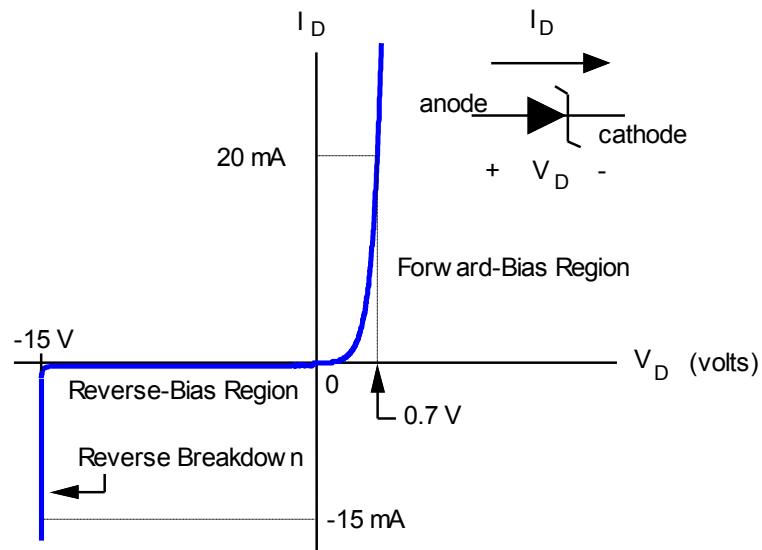

Figure 2-28.
When a p - n junction is reverse biased excessively, it will experience a phenomenon known as **voltage breakdown**. Figure 2-28 illustrates the effect of reverse voltage breakdown on the V - I characteristic curve. When a p - n junction is in breakdown, its reverse current can rise to large values. The current is limited solely by the resistance in series with the p - n junction. Breakdown is not inherently damaging to a p - n junction. However, if the reverse current is *not* limited to a safe value, the resulting excessive power dissipation (VI) can damage the p - n junction.
Zener and avalanche diodes are used as *voltage limiters*, *simple voltage regulators*, and as *voltage references* in some electronic circuits. Zener and avalanche diodes respond differently to the effects of temperature. This will be explained shortly. Consequently, we need to distinguish between the two types of voltage breakdown diodes. This is made difficult because ***both are referred to as zener diodes***. Further, the *same* schematic symbol is used. The (most popular) symbol is also indicated in Fig. 2-28. Note the cathode bar forms a “Z”.